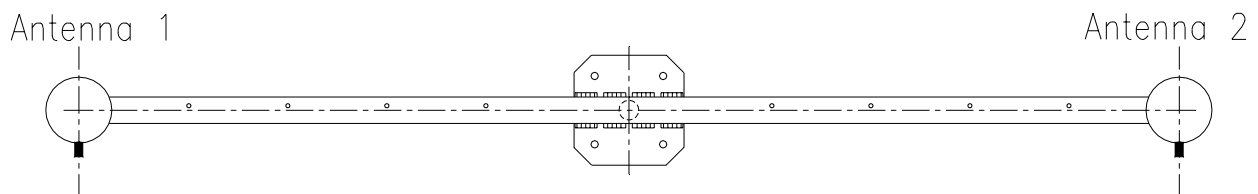
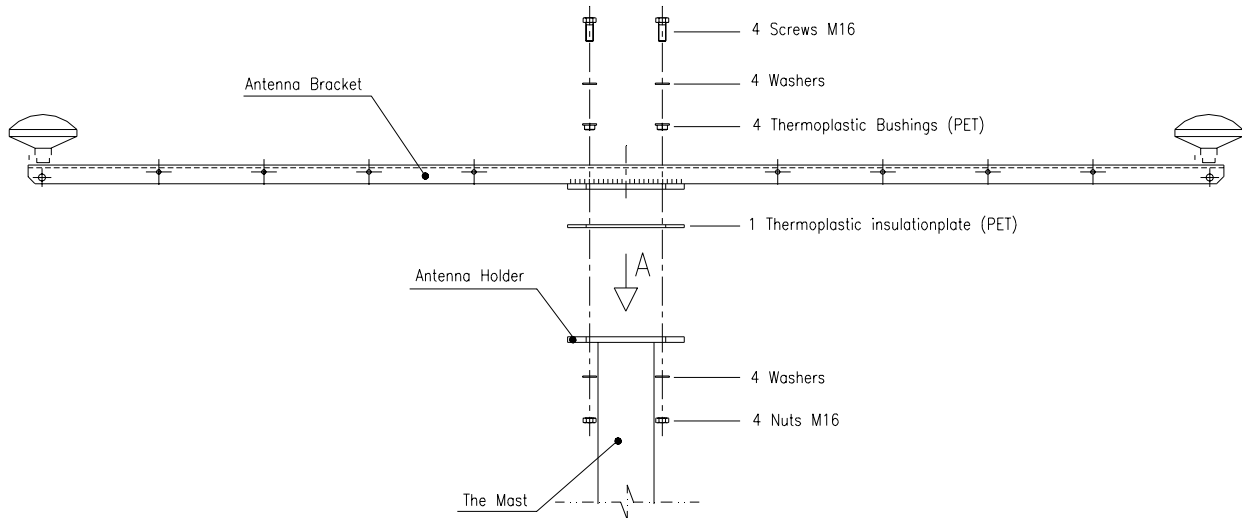
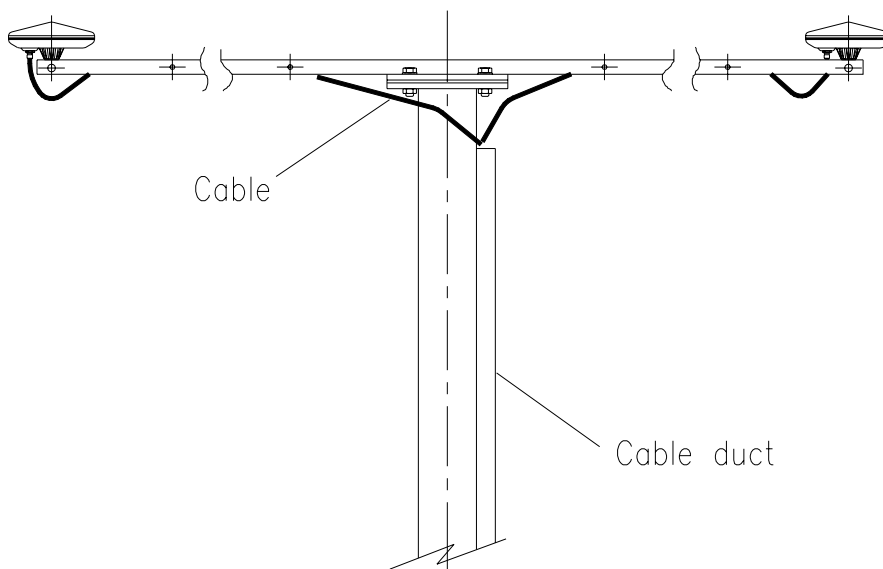

Figure 2 Top view of the Antenna Bracket
Figure 3 The different components for mounting of the Antenna Bracket
Figure 4 Side view of the GPS antenna installation
1. First the user has to make a holder for the Antenna Bracket (the holder is not part of the Seapath delivery) and have it properly fastened to the mast in the preferred orientation (horizontal or vertical). When the Antenna Bracket is mounted vertically, the drawings in Figure 2, Figure 3 and Figure 4 are not correct.
2. Bring the Antenna Bracket, the two GPS antennas and the antenna cables as close as possible to the location of the antenna holder. While both the GPS antennas and the Antenna Bracket are down on deck, mount the GPS antennas on the Bracket with both antennas oriented in the same direction. Depending on antenna type, labelling on the antenna housing (arrow or text) or connector location is used to determine direction. Figure 2 shows the antennas oriented with connectors pointing in the same direction. The antennas are not marked, and are interchangeable but called no. 1 or 2 for reference. The normal orientation of the Antenna Bracket is along ship with antenna no. 1 aft. It can, however, be mounted in any orientation, provided it is approximately horizontal.
waterproof self-vulcanising tape. The GPS antenna cables are then strapped inside the Antenna Bracket as shown in Figure 4.